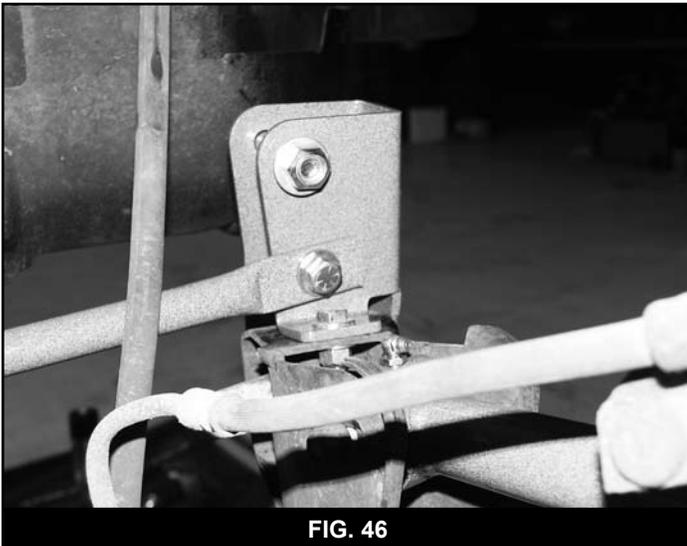

FIG. 46
34. Loosely attach the provided track bar bracket brace tube (01323) to the remaining hole in the new track bar bracket (Fig 46). Position the brace tube so it attaches to the front side of the bracket and the opposite end of the tube is positioned so that the tab (bent end) rest against the back of the passenger's side upper control arm mount. Fasten the tube to the track bar bracket with a 7/16" x 1" bolt, nut and 7/16" SAE washers (BP 752).